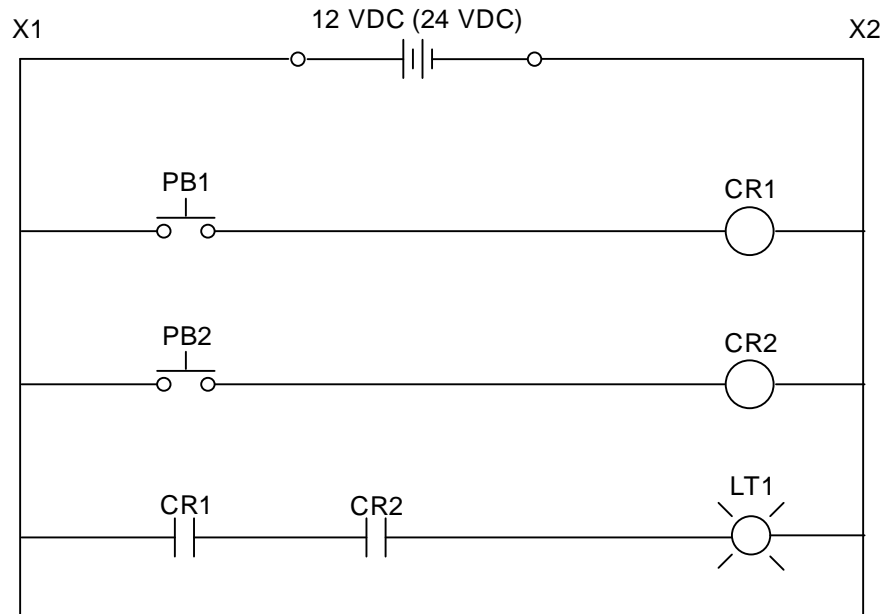

Fig. 2-45 Two Pushbuttons
2.1-2 Describe observations of Fig. 2-45 before the pushbutton is pushed and when the pushbutton is pushed.